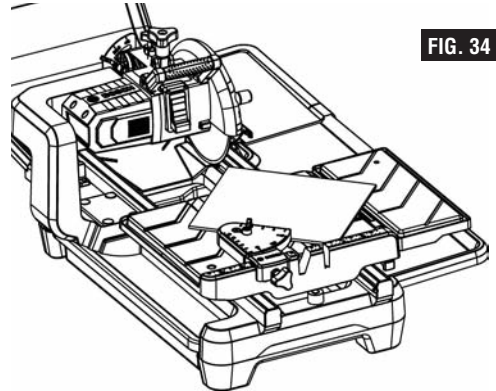

FIG. 34
7. With hands firmly placed on fence and tile at the same time, ease the sliding work table towards the blade to slowly feed the tile into the blade. Continue pushing until the blade cuts completely through the tile (Fig. 34).